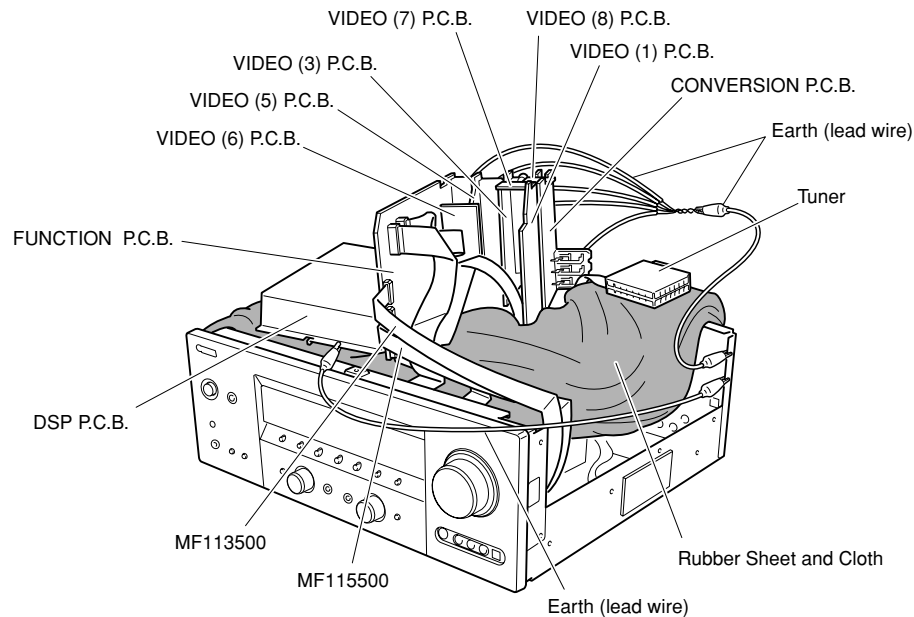

Fig. 6
- Put the Rubber Sheet and a Cloth over the equipment. Then place the P.C.B. upside down on the Cloth and check it. (Fig. 6)